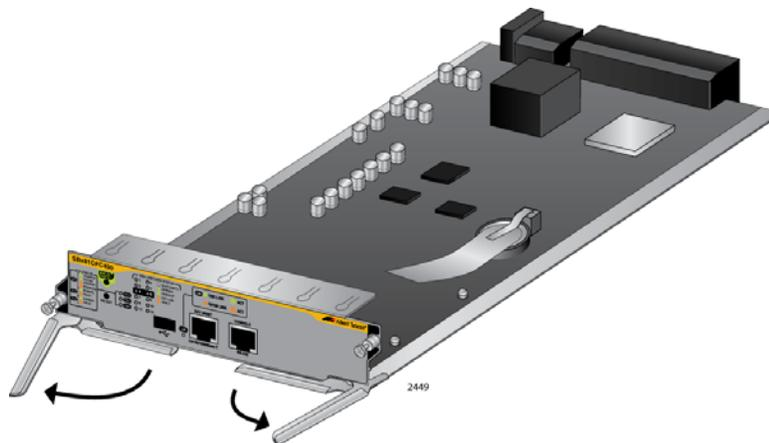

Figure 69. Opening the Locking Handles on the AT-SBx81CFC400 Controller Fabric Card
- Move the locking handles on the front panel to the open position, as shown in Figure 69 on page 114.